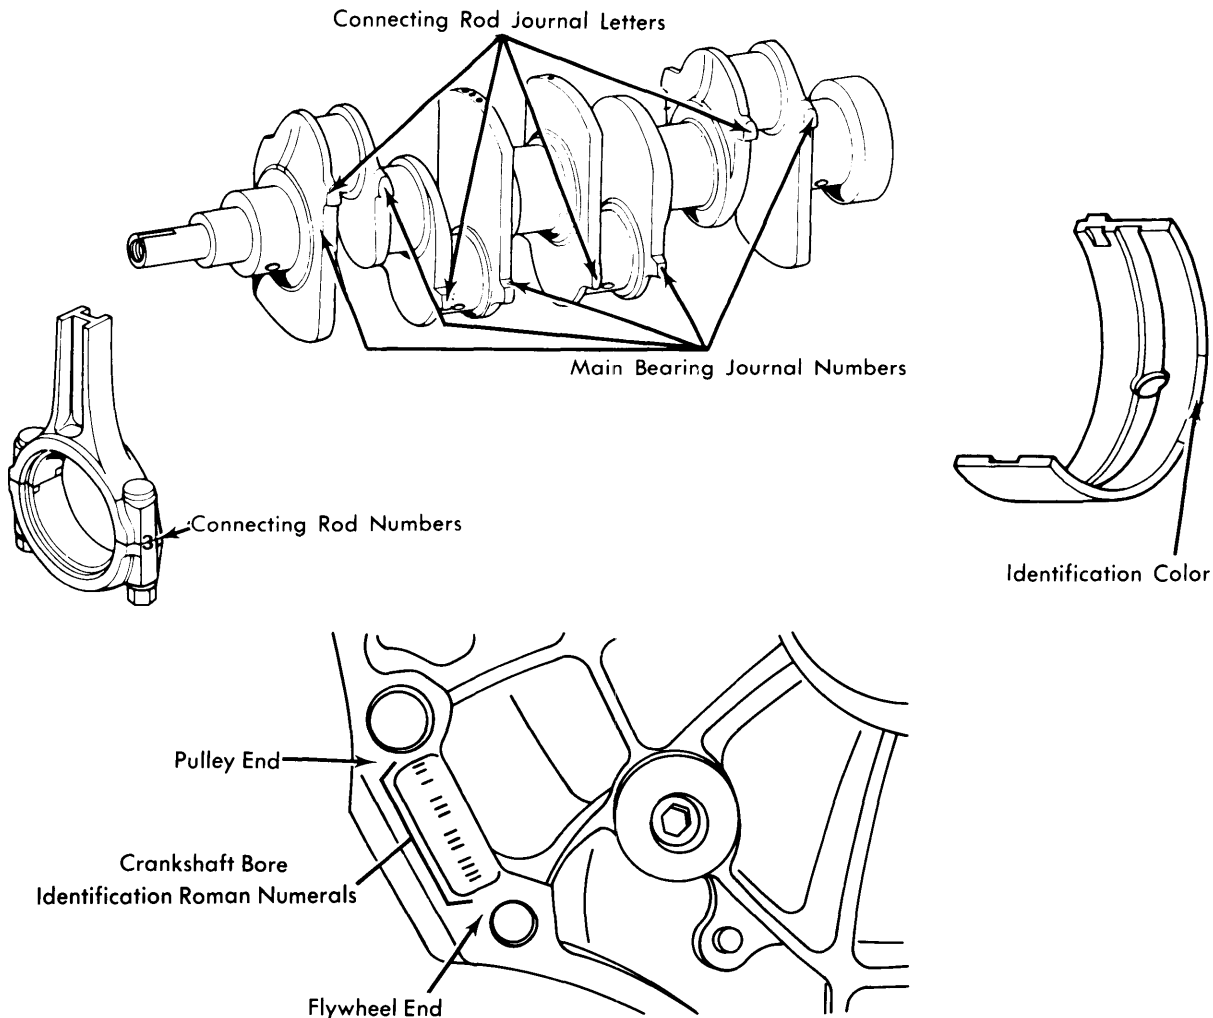

Fig. 3 Crankshaft and Connecting Rod Bearing Identification with Detail for Each Component.
4) Referring to Fig. 3, note that all letters stamped on crankshaft counterweight pads apply to connecting rod journal nearest letter. All numbers stamped on crankshaft apply to nearest main bearing journal. Connecting rod caps have numbers stamped on cap and cylinder block has roman numerals stamped on pad at flywheel end of block.